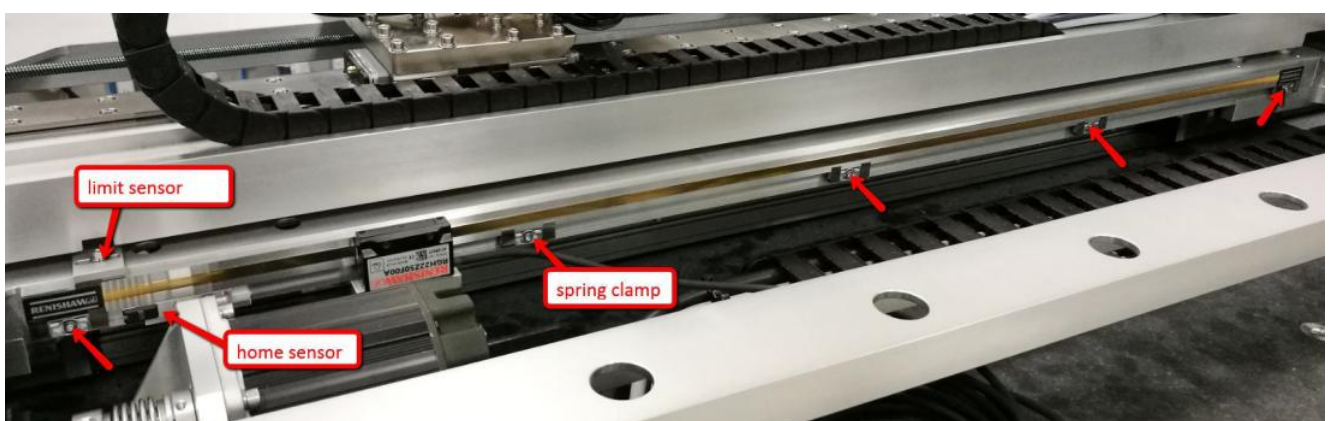

Figure 2 Glass scale
3. Remove spring clamps, home sensor and limit sensor as shown in Figure 2.